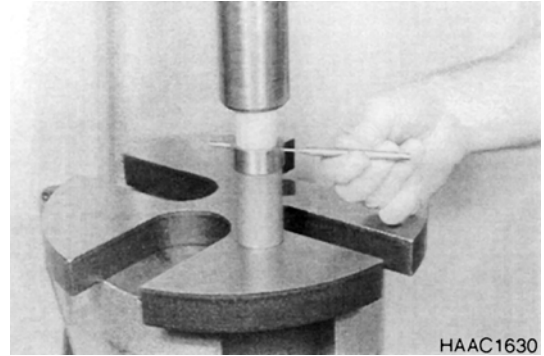
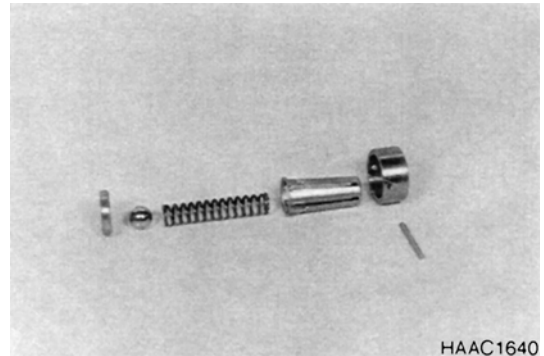

Figure 93
Figure 94
3. Preload compression spring carefully, remove cylindrical pin (Figure 93) and components (Figure 94).